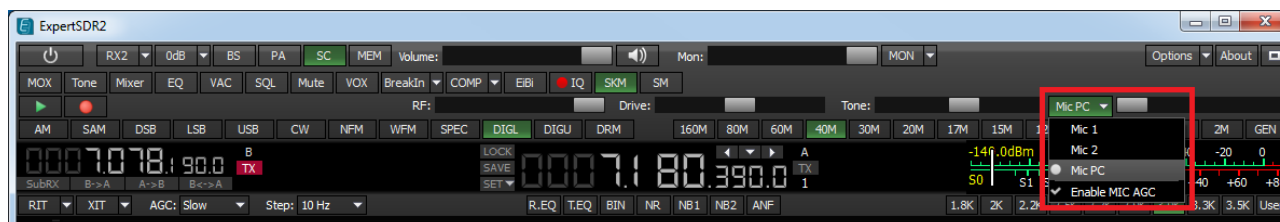

Figure 4.4 – Choose the microphone connected to PC
7. Choose MicPC in the drop down menu of the main program window (see figure 4.4);